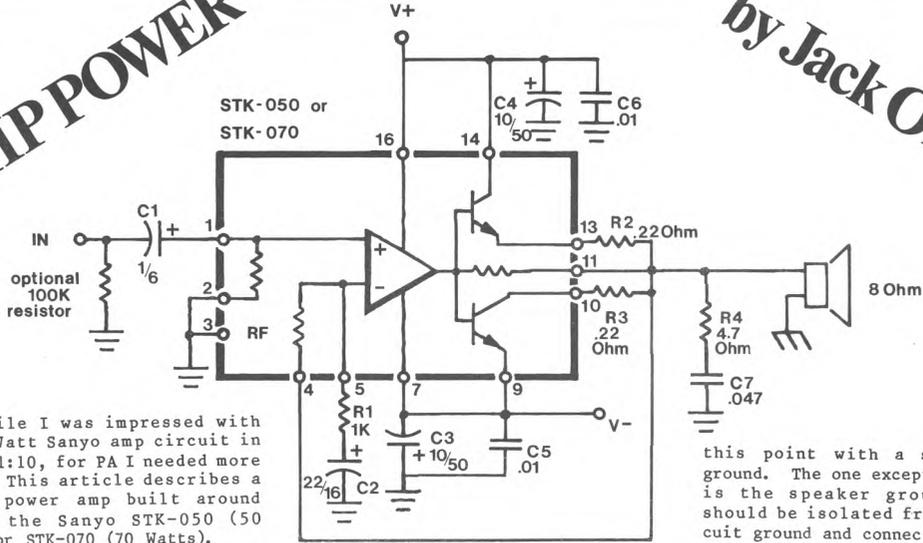

Fig.1
**How it works.** Figure 1 is an amp circuit that can use either the STK-050 or -070 (the only difference is supply voltage). The signal AC couples through C1 to pin 1, the non-inverting input. An internal resistor from this pin to ground sets the input impedance at about 30k Ohms. Pin 5 is the inverting input; R1 and C1 connect from this pin to ground to form part of a feedback loop which sets the amount of gain. An internal 29k resistor (Rf) is available at pin 4 to complete the loop, or it can be left unconnected and an external resistor used in conjunction with pin 5. Using the formula for the gain of a non-inverting amp,  $A_v = 1 + (R_f/R_1)$ , for  $R_1 = 1k$  and the internal resistor = 29k the gain is 30 (this allows a signal of about 1V rms to drive the amp to full power). Pins 10 and 13 are connected to the chip's power transistors and should be tied to the output through 0.22 Ohm, 2 Watt resistors.
**Power Amp (Fig. 1)**